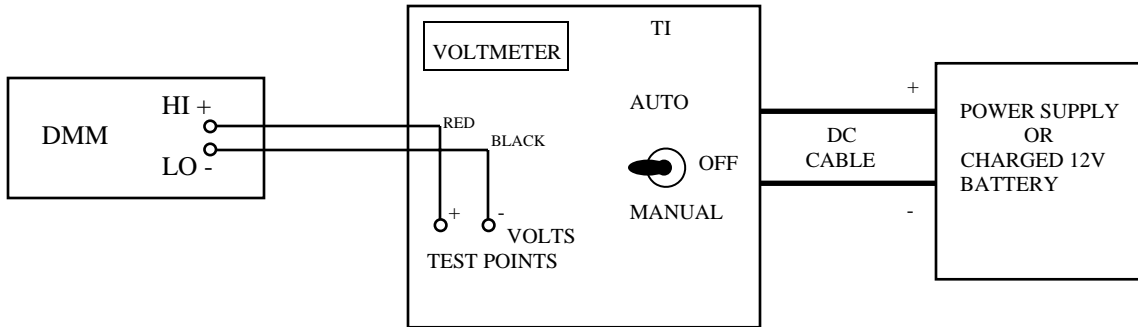

Figure 1. Voltmeter Test Setup
4.1.3 Connect the DMM as shown in Figure 1.